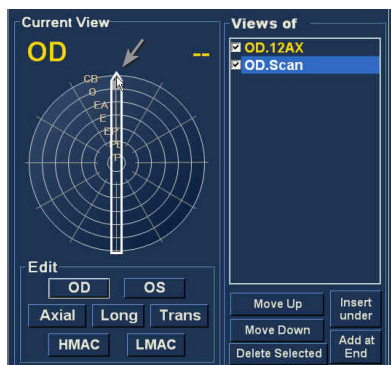

Figure 4.22 - Change Probe Orientation
4. Adjust the position for the new sequence scan by dragging the tip of the position indicator as shown in Figure 4.22. The new scan defaults to AX as the method for probing. If you would like to change the probing method select either "Long" or "Trans".